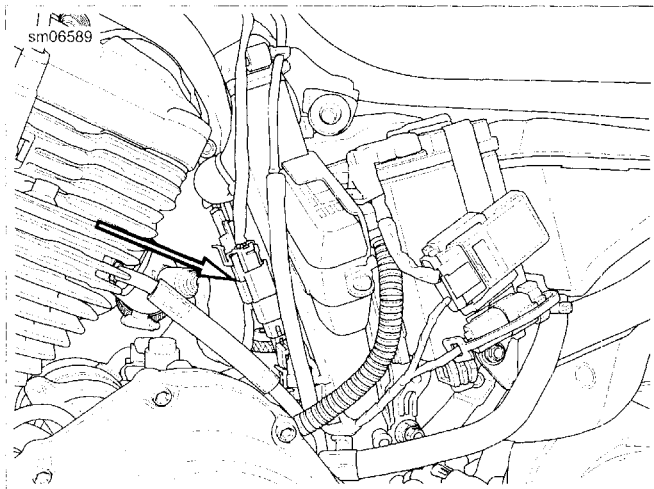

Figure 4-18. Fuel Pump Connector Location
- a. See Figure 4-18. Unplug fuel pump connector [141].